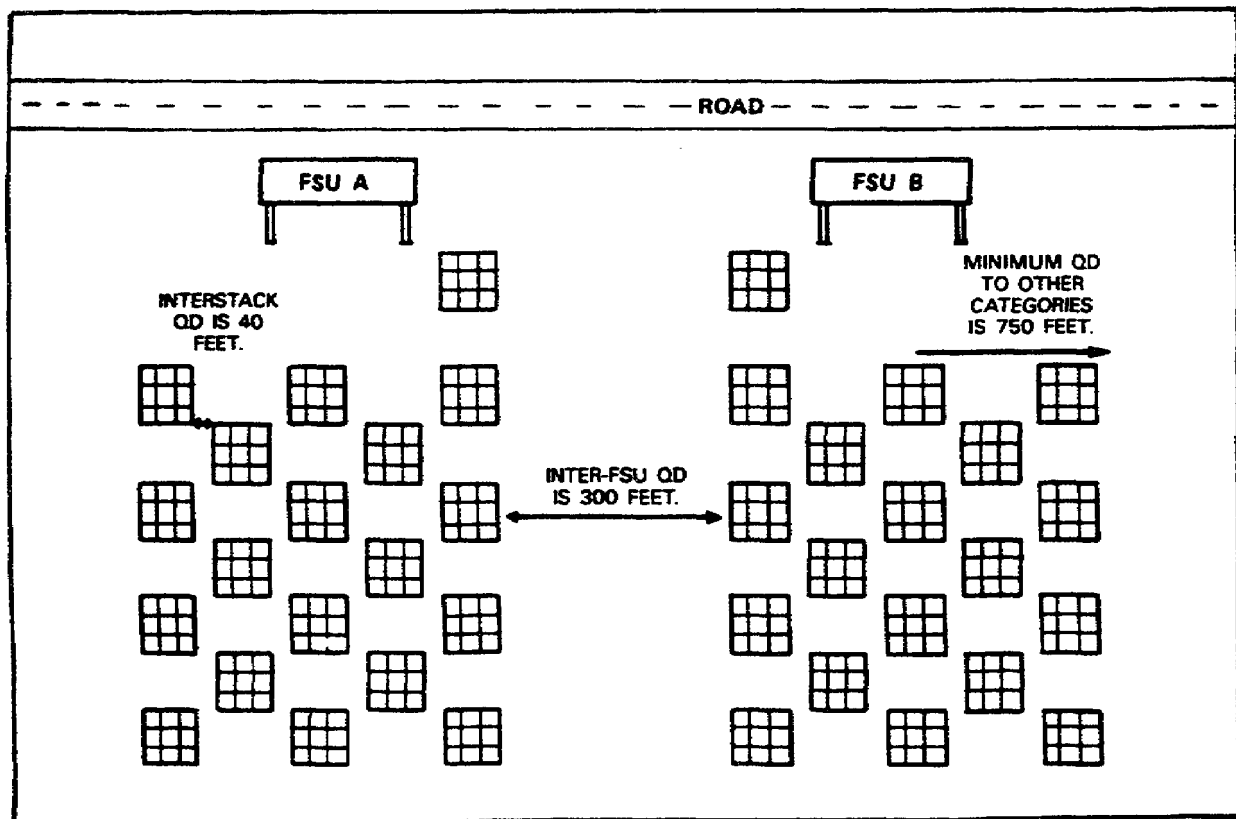
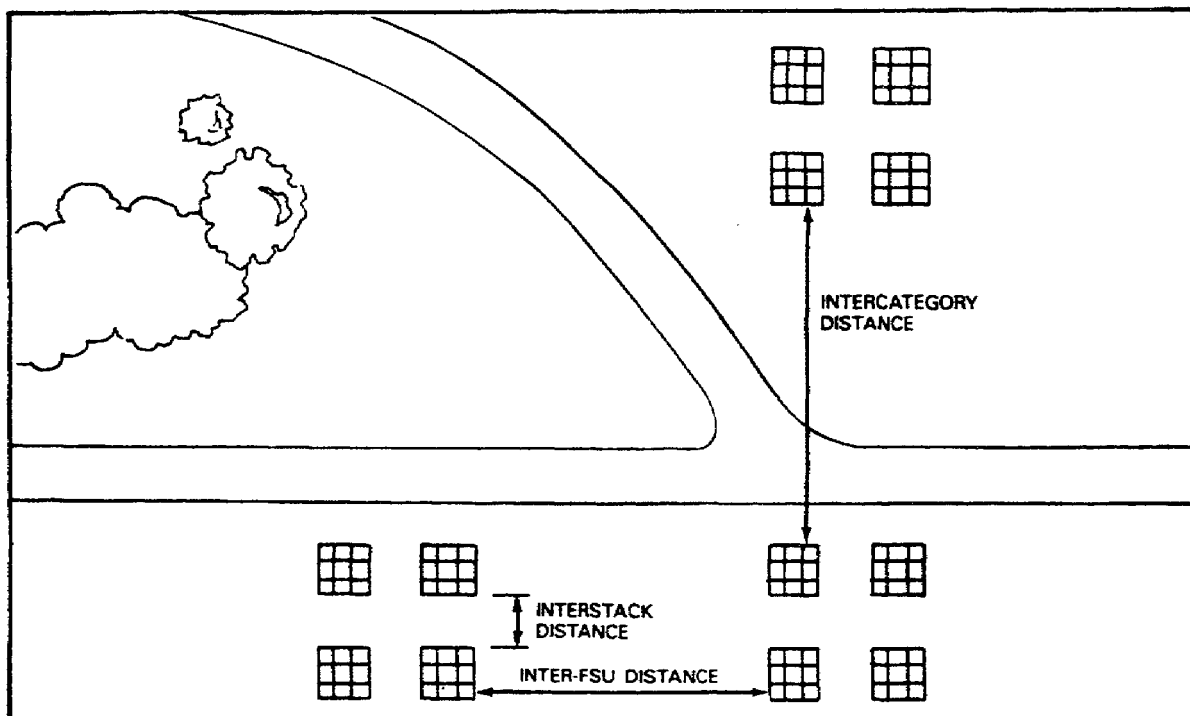

Figure 1-8. An Area Storage Plan.
Figure 1-13. Field Storage Distances.
In area storage, ammunition stacks are arranged in checkerboard fashion and spaced according to quantity-distance (QD) requirements (Figure 1-8). The advantage of area storage is that it provides the most efficient use of the area available. Its disadvantages are that it requires high, dry ground and that conveyors and materials handling equipment (MHE) must be used for loading and unloading operations.
There are three things to remember before getting into quantity-distance (separation distance) requirements for FSCs. Interstack distance is the minimum allowable distance between the closest edges of adjacent stacks. Inter-FSU distance is the minimum allowable distance between the closest edges of the nearest stacks in adjacent FSUs. Intercategory distance is the minimum allowable distance from an FSU of one category to the nearest FSU of another category. Figure 1-13 illustrates the interstack, inter-FSU, and intercategory distances. Refer to Figures 1-8, 1-9, and 1-10 for other examples of these distances.